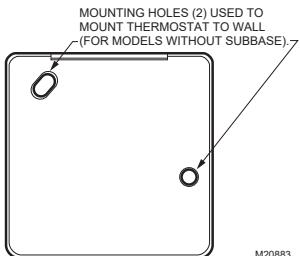

Fig. 2. Mounting hole locations for models without subbase.
- Fasten the thermostat to the wall with screws through the mounting holes on the upper left and right sides of the device. See Fig. 2.